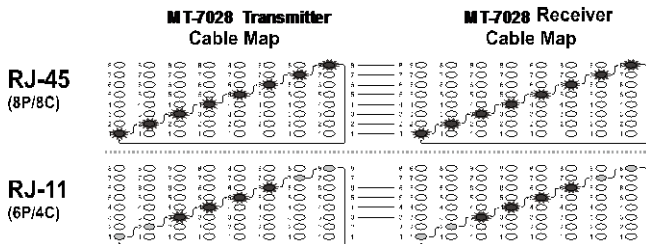

Figure 4 Different Connector's Cable Map
- 3) Different connectors generate different LED and sound indications as shown in Figure 4.